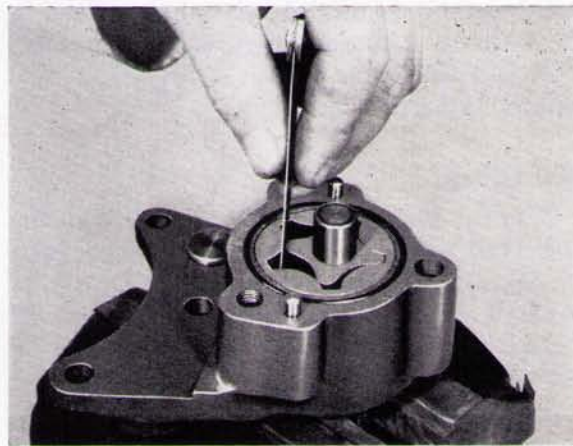

Fig. P.7.
2. Install the drive and driven rotors in the pump body and check the clearance between the maximum diameter of the inner rotor and the minimum diameter of the outer or driven rotor at all points. The chamfered edge of the outer rotor enters the pump body first. If the clearance exceeds 0.006 in. renew the pump. See Fig. P.7.